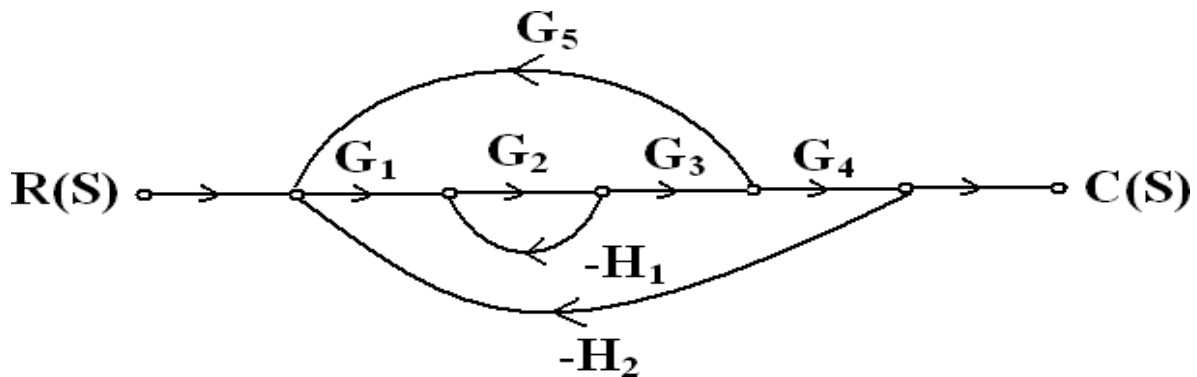

Figure 2
4. Find $C(S)/R(S)$ for the following system using Mason's gain rule shown in figure 2.